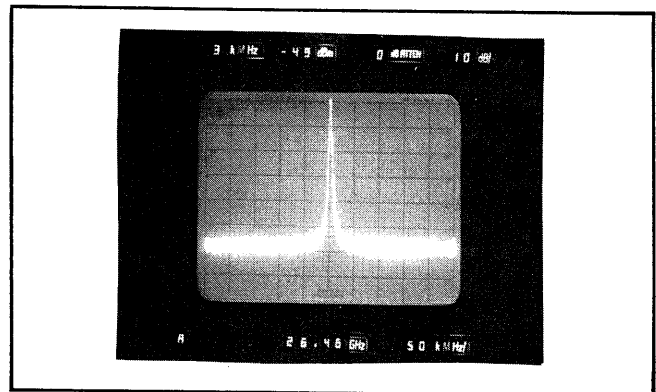

Figure 4-21. Noise Sidebands (6642A)
4. A trace similar to the one shown in Figure 4-21 should be obtained. Ensure that no sidebands are present 100 kHz (2 divisions) on either side of the carrier frequency.